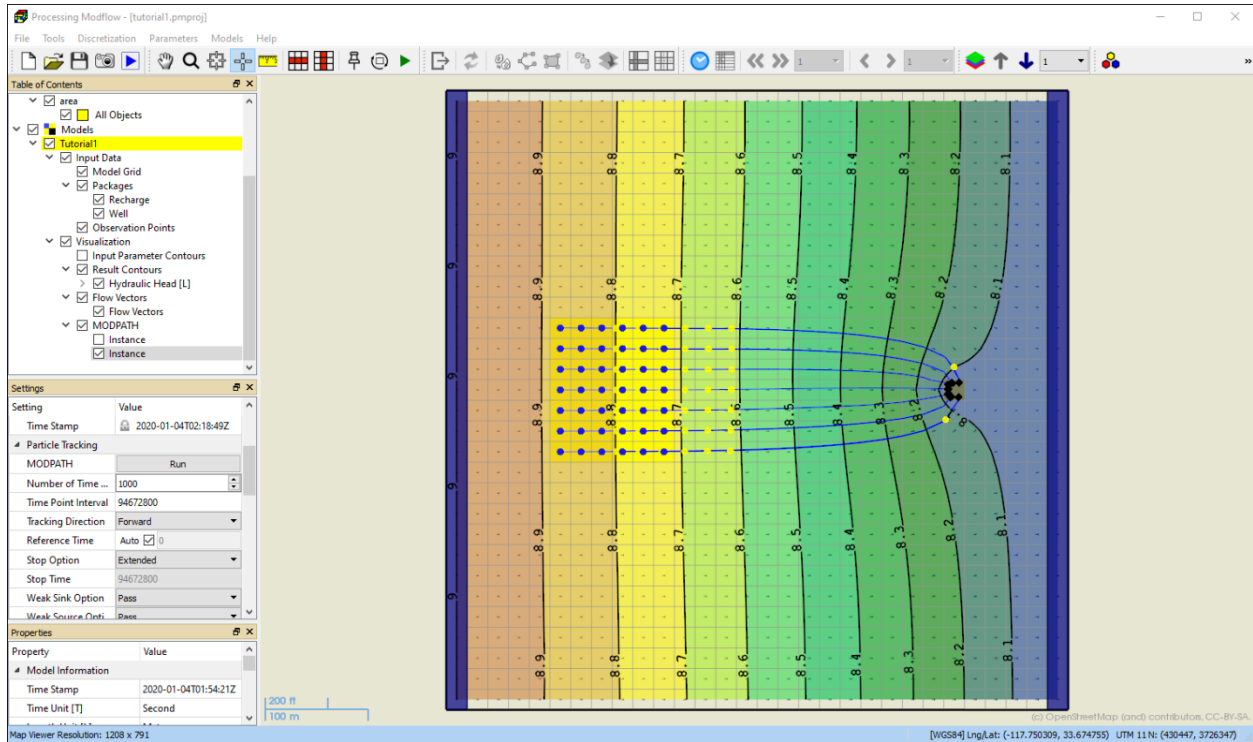
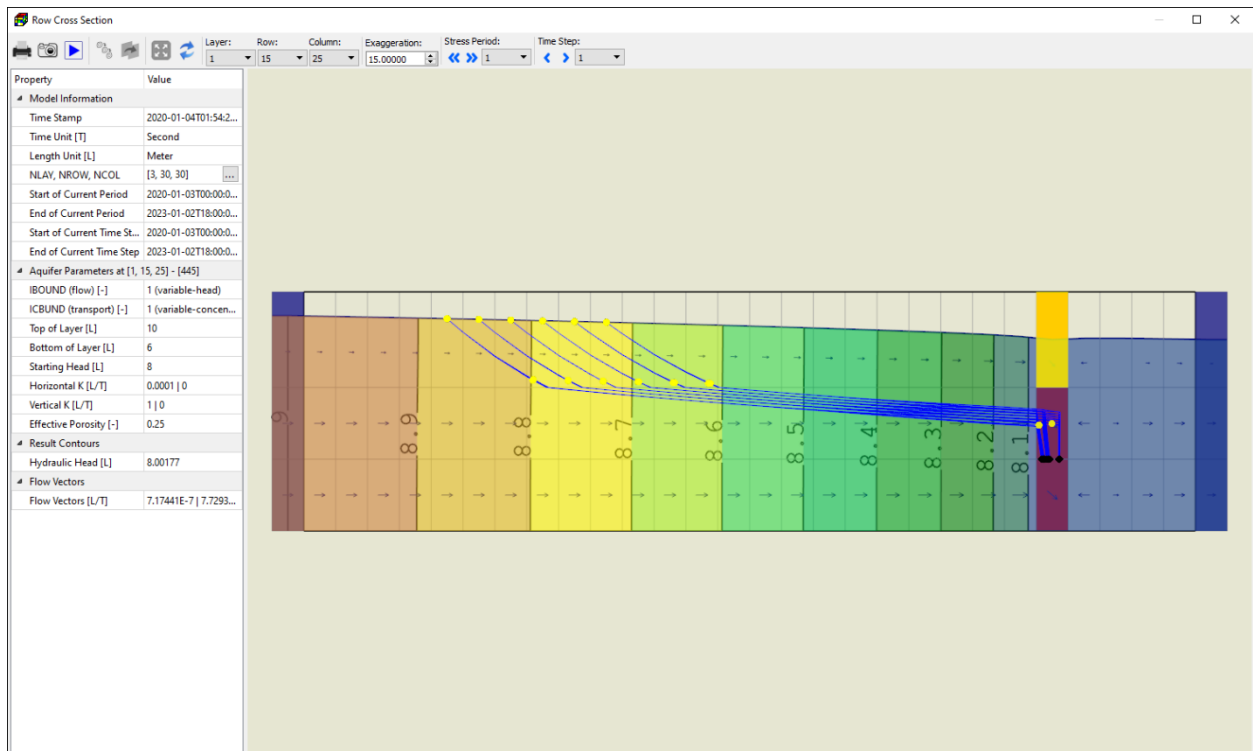

Figure 16. Projection of pathlines on the Map Viewer (forward tracking)
Figure 17. Projection of pathlines on the Row Cross Section Window (forward tracking)
5. As soon as the calculation is finished, PM will display the (projection of) pathlines on the Map Viewer (Figure 16). By clicking on  button on the toolbar, you can display the (projection of) pathlines on the Row Cross Section window (Figure 17). The figures show